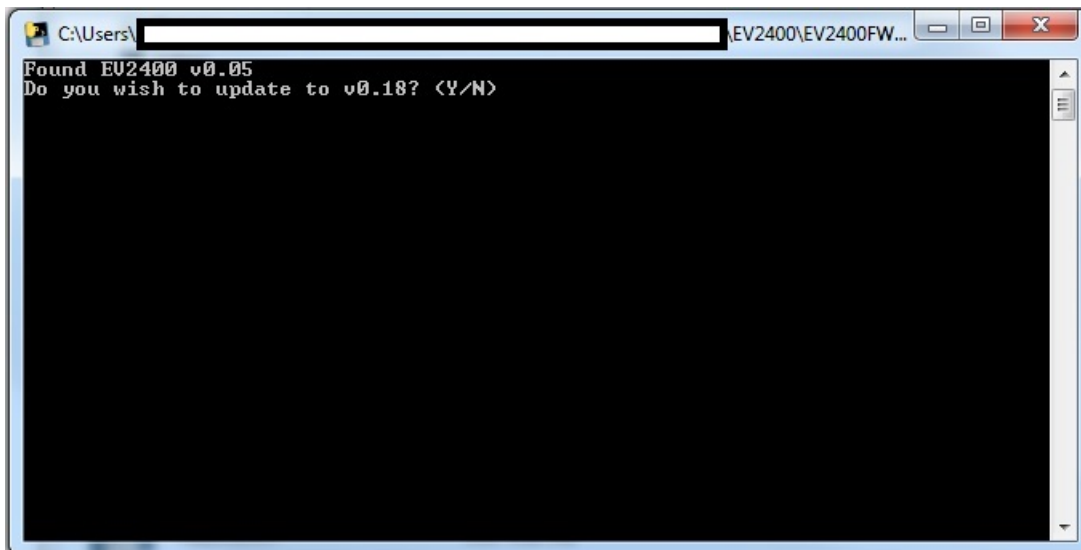

Figure 2. Firmware Update Prompt Screen
8. The updater tool should detect the connected EV2400, display the current firmware version, and prompt the user to continue to update the EV2400 firmware. See Figure 2.